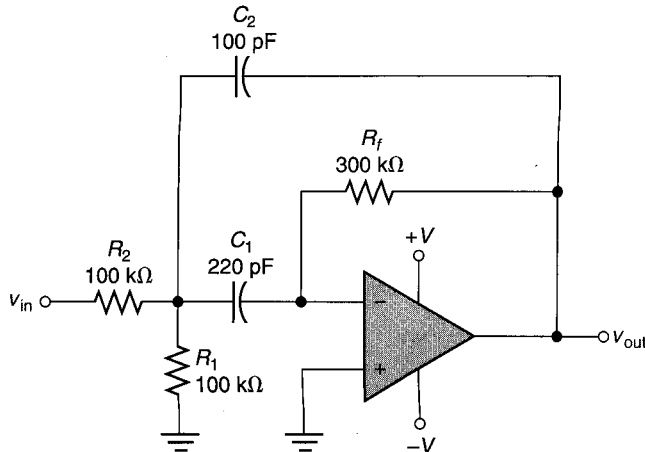

FIGURE 17.52
17. Calculate the values of  $f_{C1}$ ,  $f_{C2}$ , bandwidth, geometric center frequency, and  $Q$  for the band-pass filter in Figure 17.52.
- 21.** Calculate the value of  $A_{CL}$  for the filter in Figure 17.52.